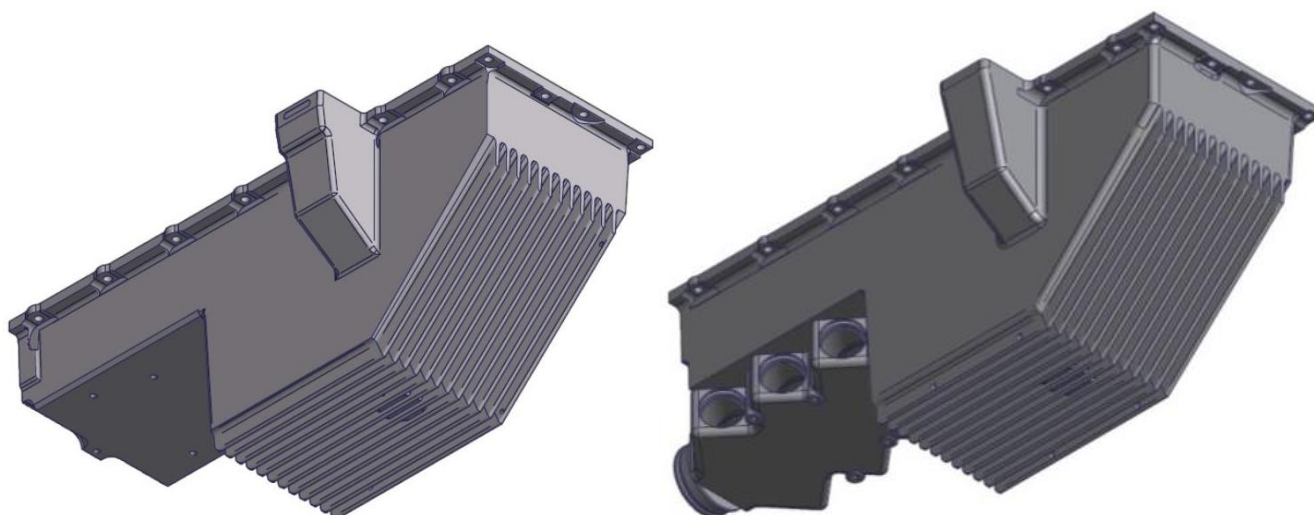

Figure 102 – 3300 Engine Sumps
- 3300 engines: two types of sumps, shown in Figure 102, are acceptable for use. Note the intake tubes leaving the manifold at an angle.
- Current engines use an induction cast into the sump as shown in Figure 102 (right).